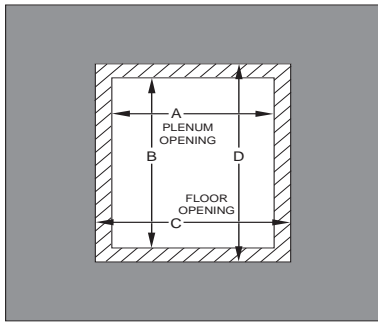

Fig. 10 – Floor and Plenum Opening Dimensions
2. Construct hole in floor, see Table 3 and Fig. 10.
3. Construct plenum to dimensions specified, see Table 3 and Fig. 10.